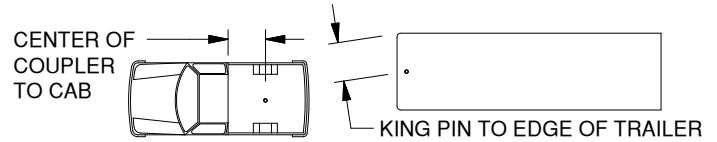

Figure A3: Truck and Trailer
2. Evaluate clearance. Determine if there is clearance between each truck and trailer combination before towing. Measure from the center of the coupler to the cab of the truck and from the king pin or pivot point of the trailer to the furthest forward corner of the trailer, see Figure A3. Compare these measurements to ensure proper clearance when towing. Also, inspect the clearance between the bed sides and the underside of the front of the trailer to ensure there is room for the pitch and roll of the trailer while towing.